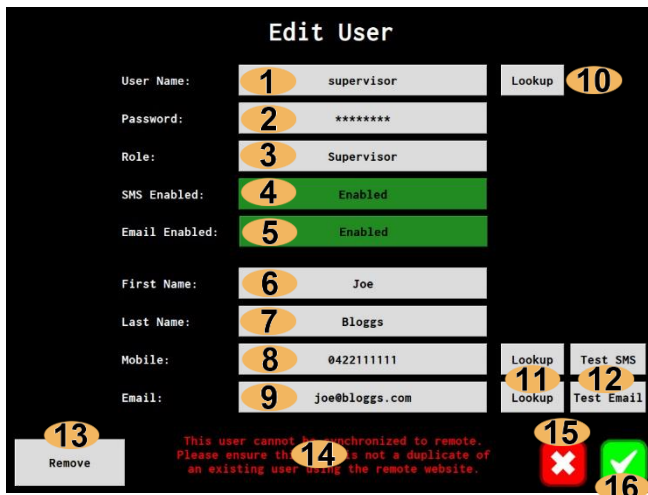

Figure 39: Edit user screen.
- 2 Add New:** Adds a new user, See Figure 39: Edit user screen.